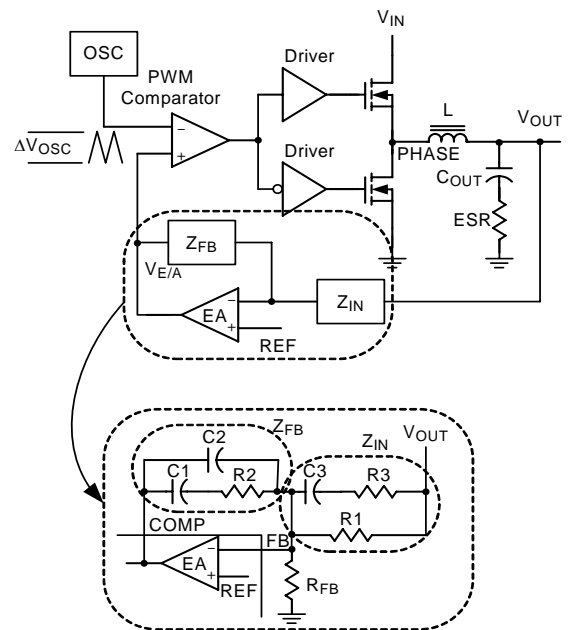
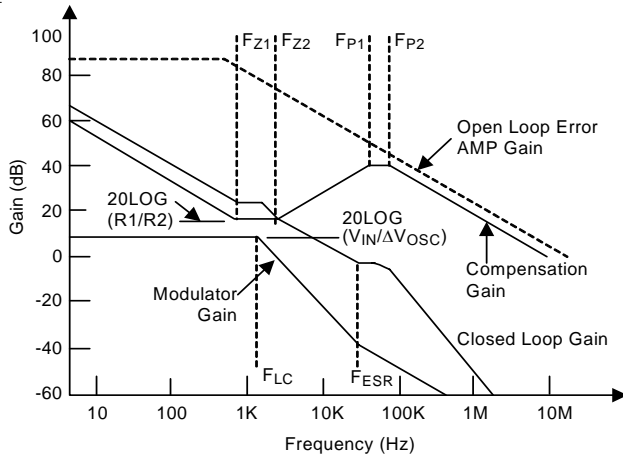

Figure 7
Figure 8
Figure 7 highlights the voltage-mode control loop for a synchronous buck converter. Figure 8 shows the corresponding Bode plot. The output voltage (V_{OUT}) is regulated to the reference voltage. The error amplifier EA output (COMP) is compared with the oscillator (OSC) sawtooth wave to provide a pulse-width modulated (PWM) wave with an amplitude of V_{IN} at the PHASE node. The PWM wave is smoothed by the output filter (L and C_{OUT}). The modulator transfer function is the small-signal transfer function of $V_{OUT}/COMP$. This function is dominated by a DC gain and the output filter (L and C_{OUT}), with a double pole break frequency at F_{P_LC} and a zero at F_{Z_ESR} . The DC gain of the modulator is simply the input voltage (V_{IN}) divided by the peak-to-peak oscillator voltage ΔV_{OSC} . The break frequency F_{LC} and F_{ESR} are expressed as Equation (1) and (2) respectively.
The compensation network consists of the error amplifier EA and the impedance networks Z_{IN} and Z_{FB} . The goal of the compensation network is to provide a closed loop transfer function with the highest DC gain, the highest 0dB crossing frequency (FC) and adequate phase margin. Typically, FC in range 1/5 to 1/10 of switching frequency is adequate. Higher FC will cause faster dynamic response. A phase margin in the range of 45°C to 60°C is desirable. The equations below relate the compensation network poles, zeros and gain to the components (R1, R2, R3, C1, C2, and C3) in Figure 7.